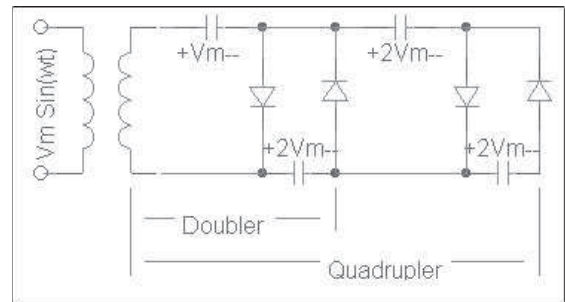

FIGURE 2.18 Voltage doubler and quadrupler circuit.
**C. As Voltage Multiplier** By connecting diodes in a predetermined manner, an ac signal can be doubled, tripled, and even quadrupled. This is shown in Fig. 2.18. The circuit will yield a dc voltage equal to  $2 V_m$ . The capacitors are alternately charged to the maximum value of the input voltage.